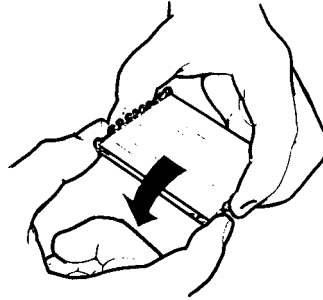

Figure 4.
1. Grasp a socket cover strip between thumb and forefinger of both hands, with the liner facing you. Rotate the outermost cover down against the adjacent cover on the strip, breaking it from the liner. Pull laterally away from the strip, leaving a clean adhesive edge on the removed cover. (See Figure 4)